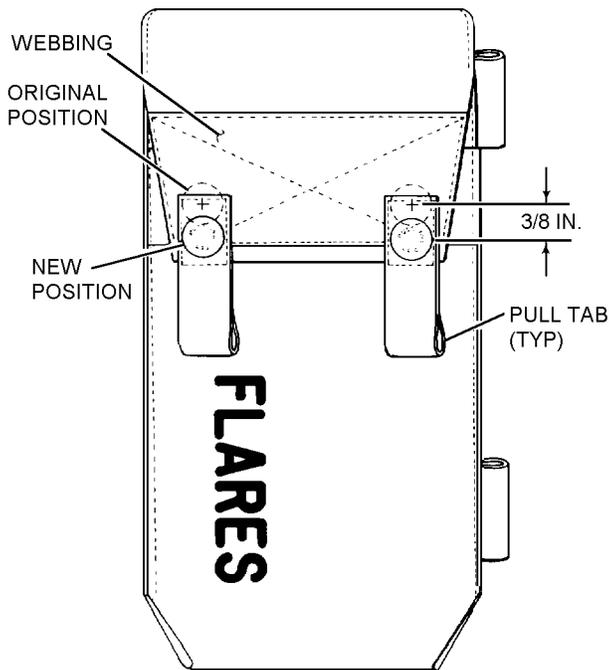

Figure 27-12. Flare Pouch Repair
2. Position MIL-W-4008 Type VIII webbing on outside surface of pouch flap. Cut and sear webbing ends to match contour of flap end. Boxstitch webbing to flap using size E nylon thread (V-T-295). See figure 27-12.